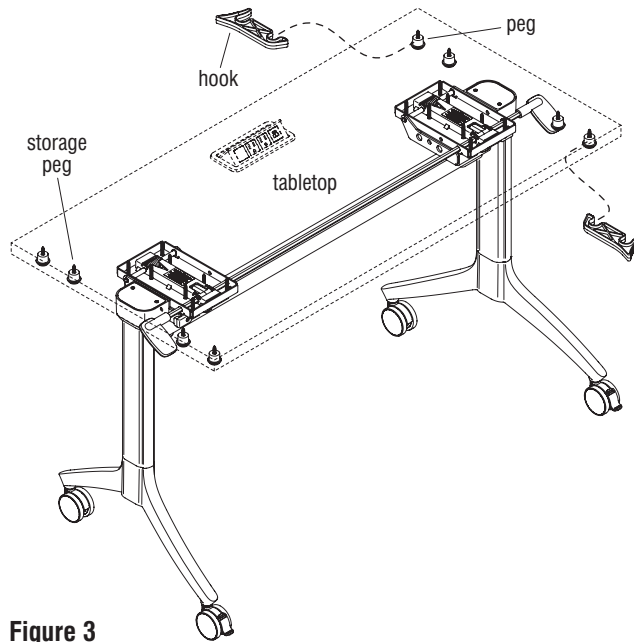

Figure 3
3. Carefully turn the table to the upright position (Figure 3).
4. Position and snap the two ganging hooks onto their respective ganging pegs (Figure 3).